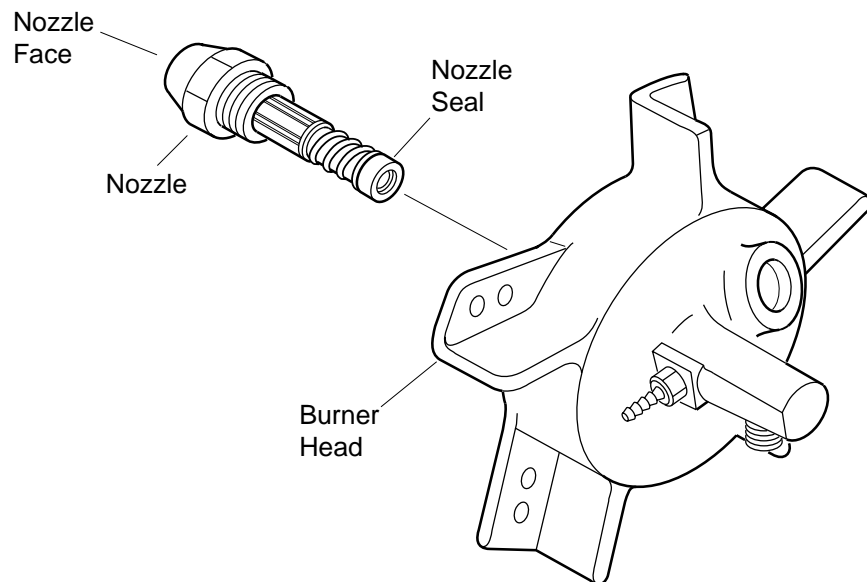

Figure 30 - Removing Nozzle, 44 kW (150,000 Btu/Hr) Model
9. Carefully remove nozzle from burner head using 5/8" socket wrench (see Figure 30).